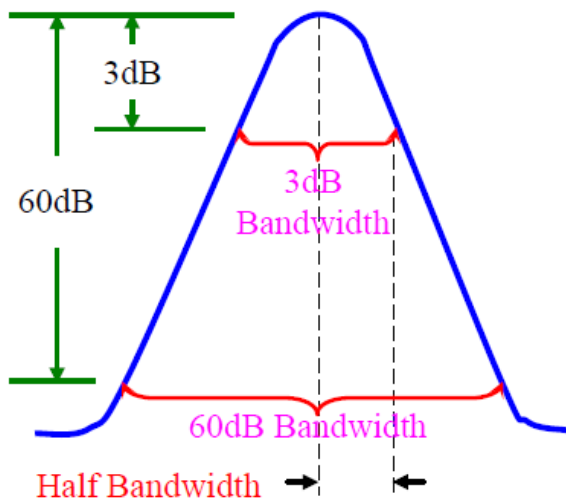

Figure 5-5 Schematic of Bandwidth and Squareness Factor
- 1) As shown in Figure 5-5, connect the outputs of two signal generators to the spectrum analyzer input.